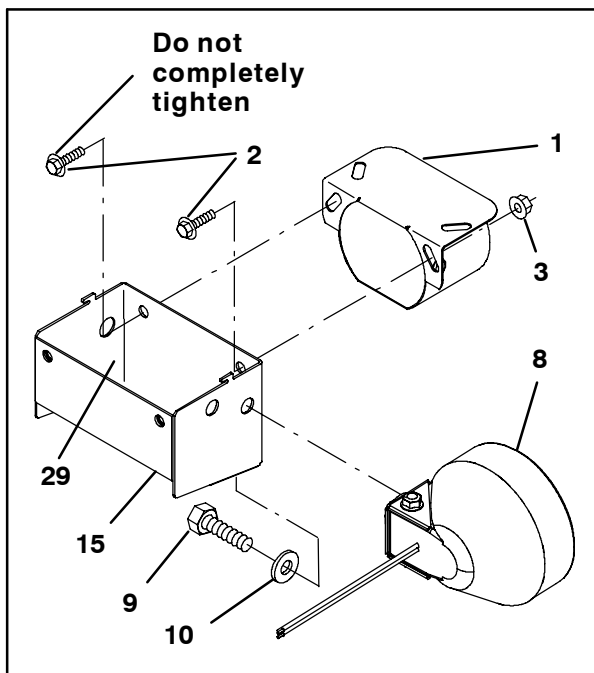

FIG. 3
9. Route the spot light (8) wires through the hole in the alarm bracket (15) and use a hex screw (9) and a flat washer (10) to install the spot light onto the alarm bracket. Refer to Fig. 3.
10. Use two hex screws (2) and two flange hex nuts (3) to install the backup alarm (1) onto the alarm bracket (15). Do not completely tighten the hex screw and hex nut labeled in Fig. 3. Refer to Fig. 3.
20. Tighten the hex screw (2) and flange hex nut (3) holding the p-clamp (29) onto the alarm bracket (15). Refer to Fig. 3.